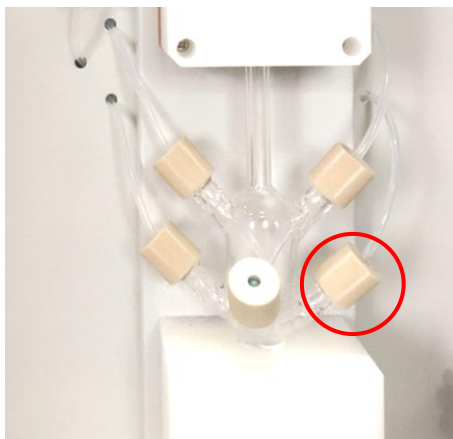

Fig. 6.31
2)Unscrew the acid inlet nut (at the lower right corner) from IC reaction tank, pull out the pipeline and remove the nut (Fig. 6.31) .